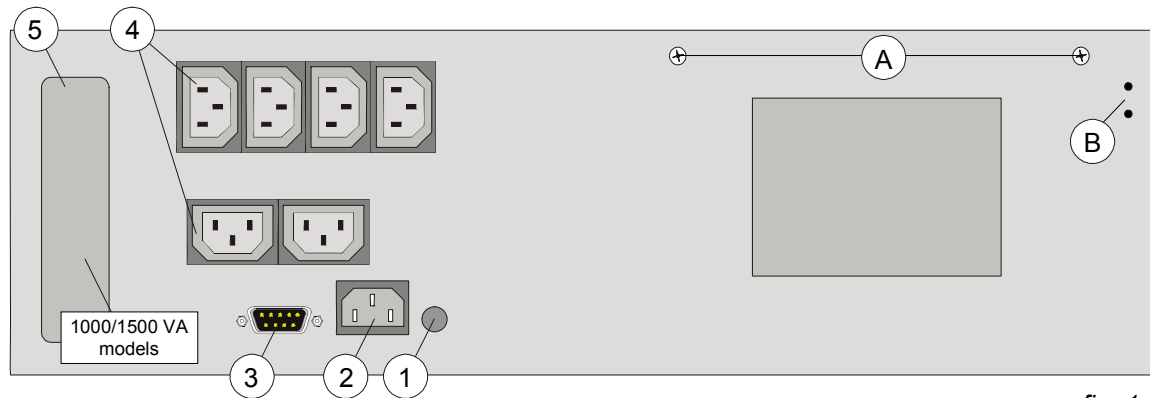
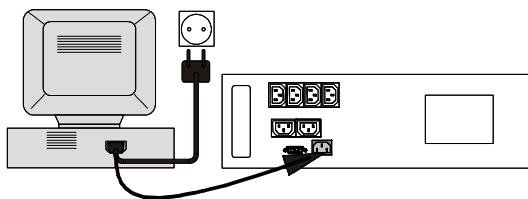
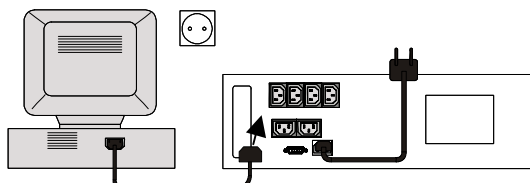

fig. 1
fig. 2
fig. 3
- During transport the battery drawer must either be removed or fixed with two screws at the rear side of the UPS (A, fig. 1).
1. Remove the transport screws (A, fig. 1) and store them in the free holes (B, fig.1). Mount the Match 19" UPS in the 19" rack. The module must be supported by mounting rails, do not mount it by using the front brackets only. The front brackets allow mounting of handles (not included).
4. Disconnect the power cord from the computer (rating 250Vac/10A) and connect this cord to the mains input socket (2, fig. 1) of the UPS. See fig. 2.
5. Using the output cord(s) provided, connect the computer(s) to the appliance outlet(s) (4, fig. 1) of the UPS. Spread the loads over the appliance outlets as equally as possible. If you use a distribution box to connect more than one appliance per outlet, please note that the maximum AC-current rating of each appliance outlet is 10Amps. See fig. 3.
8. For advanced communication possibilities, the RS232 interface port (3, fig. 1) can be connected to a computer system and/or optional interface cards (5, fig. 1, 1000/1500VA models only) can be added. See chapter 4.